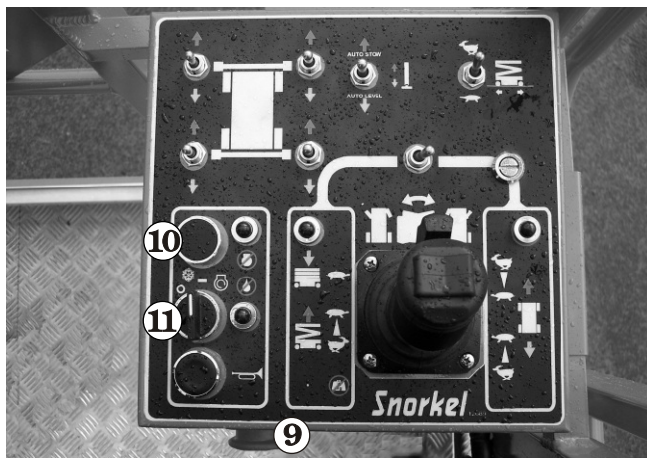

Figure 8.14
7. Turn the **Emergency Stop** switch ⑨ clockwise and it will pop out (on) (see Figure 8.14).
8. If the engine is cold, press and hold the **Choke** switch ⑩ (see Figure 8.14) during the next step.
9. Turn and hold the **Start** switch ⑪ clockwise (to the start position) until the engine starts or for 20 seconds, whichever comes first. When the engine starts, release both the start switch ⑪ and the choke switch ⑩ (see Figure 8.14).